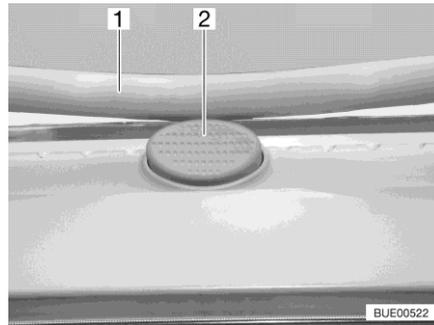

Fig. 120 Safety knob (Heki skylight)
- Press the safety knob (Fig. 120,2) and pull the bar (Fig. 120,1) down with both hands.
- Push the bar upwards with both hands until it is above the safety knob (Fig. 120,2).